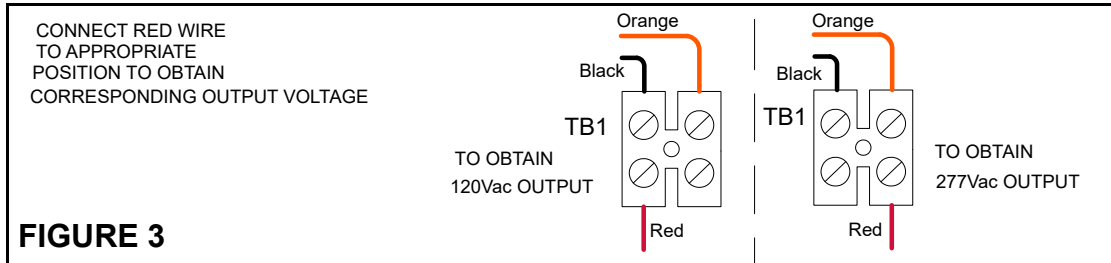

**FIGURE 2**
- Power supplied to the switched input must be fed from the same branch circuit as the unswitched input (see figure 2).**
- Unit is shipped from factory pre-set for 120V in // 120V out and configured for Normally-On load operation (see figure 2). This configuration can be changed to fulfill customer's application.
### STEP 2: CONFIGURATION OF OUTPUT VOLTAGE (SEE FIGURE 2 AND 3)